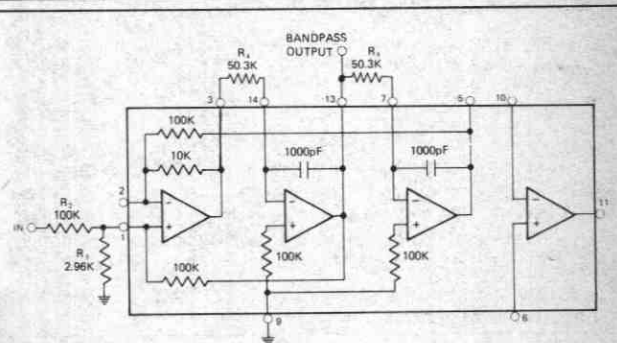

Figure 6.
- This completes the filter design which is shown in Figure 6. To choose the nearest 1% standard value resistors either 49.9K or 51.1K ohms could be used; likewise one value of 49.9K and one of 51.1K could be used giving the geometric mean of $\sqrt{R_4 R_5} = \sqrt{49.9\text{K} \times 51.1\text{K}} = 50.5\text{K}$ which is even closer. But due to the filter $\pm 5\%$ frequency tolerance it may be better to hold R_4 constant while varying R_5 to tune it exactly.